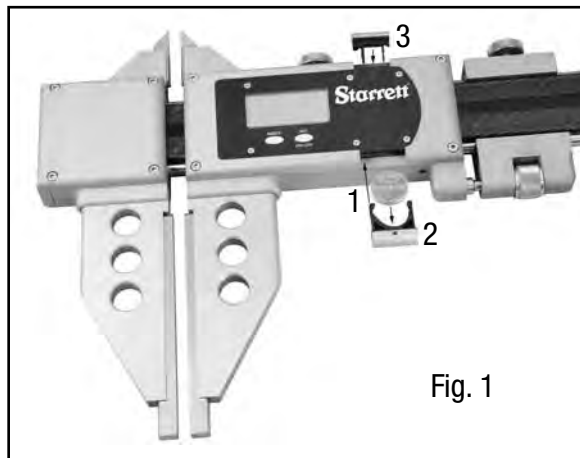

Fig. 1
To remove the cartridge, slide the battery carrier (2) in the direction of the arrow in Fig. 1. Remove the battery from the carrier and replace it with a fresh CR2032 battery. Then, slide the carrier back into the housing.